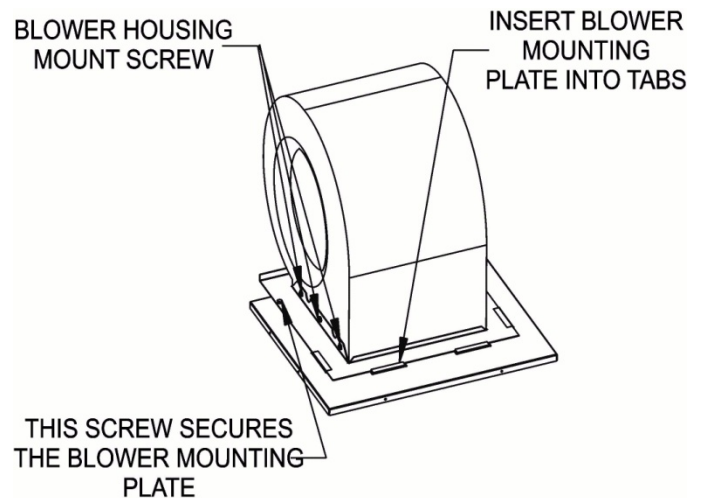

Figure 9: Blower Mounting Screw
5. Remove the blower mounting screw on the right front side of the blower mounting plate and slide the blower out of the furnace. Refer to Figure 9.